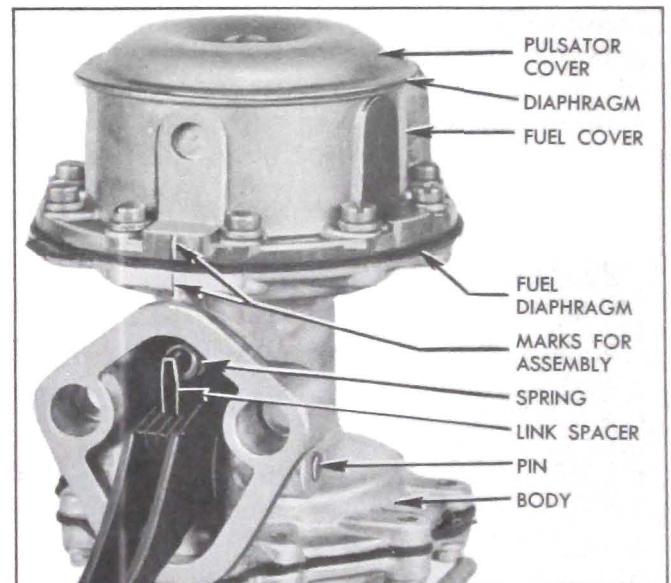

Figure 3-13—Fuel Section of Pump
1. Mark edges of fuel cover and pump body with file so that cover may be reinstalled in its original position on body. See figure 3-13.
1. File riveted end of rocker arm pin flush with steel washer (fig. 3-13), or cut off end with a 3/8" drill, then drive out pin with a drift punch and hammer.
3. Stand the pump body on the bench, fuel flange down. Set rocker arm spring in body with one end over cone cast into body. Slide rocker arm and link assembly into body with link spacer engaged with rocker arm spring. Hold parts in body and drive a *new* rocker arm pin through body and bushing. See figure 3-13.